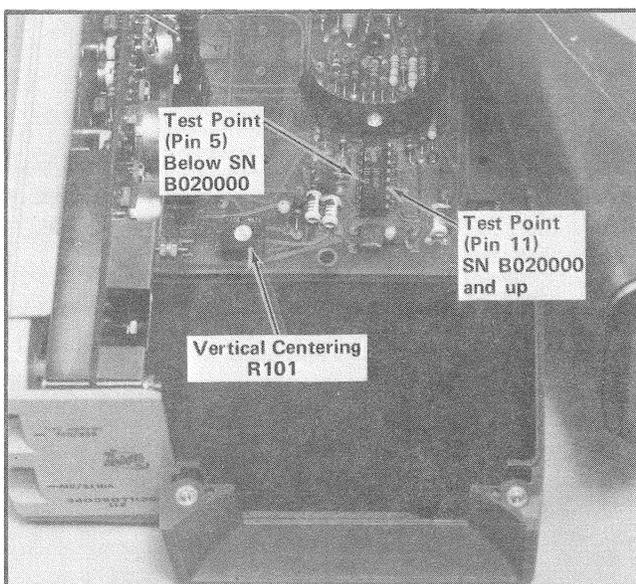

Fig. 4-3. Location of Vertical Centering adjustment and test point.
- a. Connect the DC voltmeter between pin 11 (SN B020000 and up) or pin 5 (below SN B020000) of U105 and ground. See Fig. 4-3.
- d. ADJUST—Vertical Centering adjustment R101 (see Fig. 4-3) to position the trace to the center horizontal graticule line.